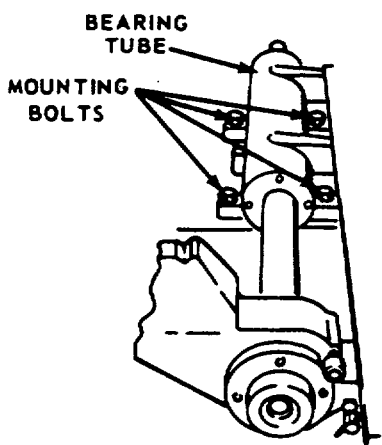

FIGURE 106
- (1) See Figure 106. Slightly loosen the four stroker Mounting Bolts.